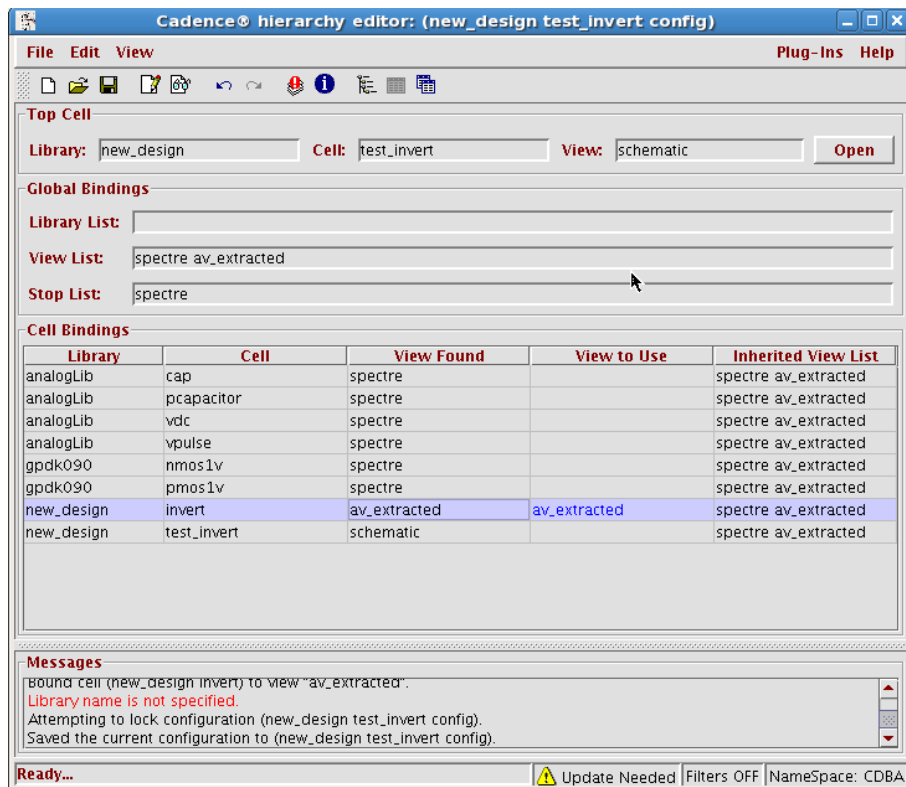

Fig 32
1.Create a config view for the test fixture schematic (the ‘test_invert’ in our example) and switch the av_extracted (or calibre) view of our design (invert) for the configuration (Fig 32).